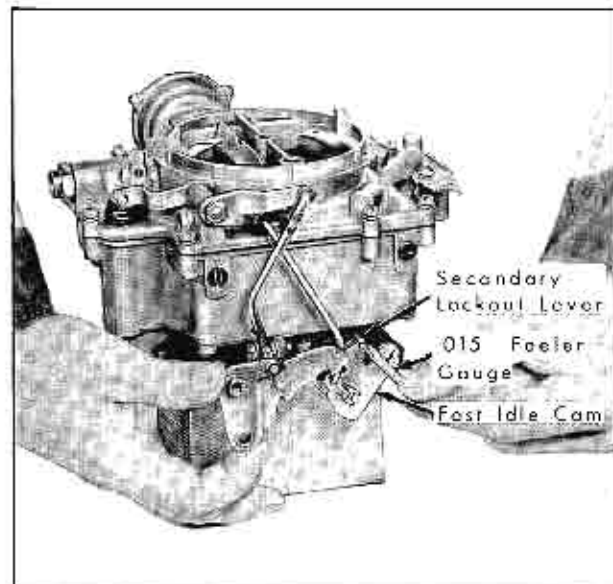

Fig. 12-26 Secondary Lockout-Choke Off
4. Open the choke valve and position the fast idle cam and lockout lever as shown in Fig. 12-26.